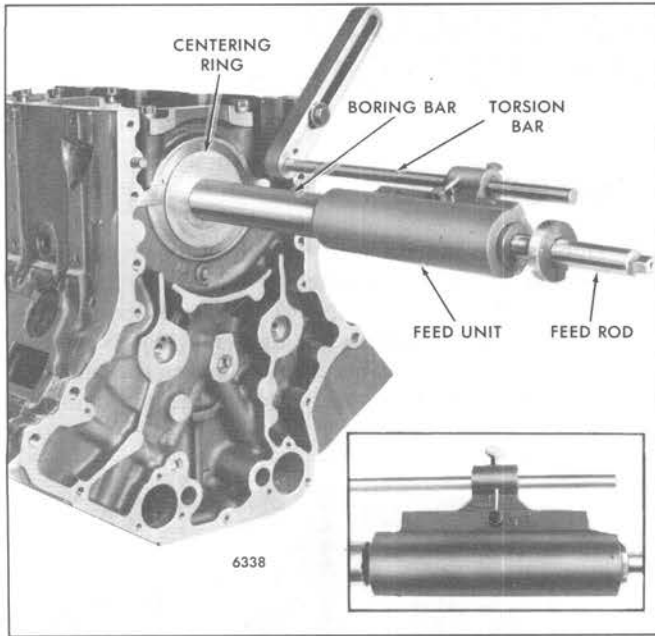

Fig. 2 - Location of Feed Rod and Unite
6. Fasten the torsion bar and the hydraulic feed unit on either end of the cylinder block. Index the flat on the feed rod into the boring bar. Snug the set screw (Fig. 2).